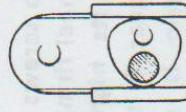

Fig. 33
- in order to make the operation easier, put the eccentric in the position shown in fig. 33, name-